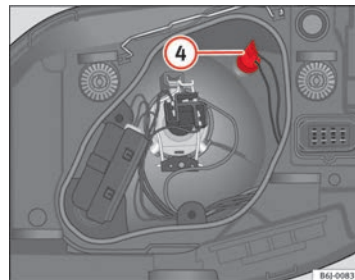

Fig. 146 Side lights
- Remove the bulb holder ④ ⇒ Fig. 146 outwards.
- ③ Dipped beam headlights
- ④ Turn signal lights